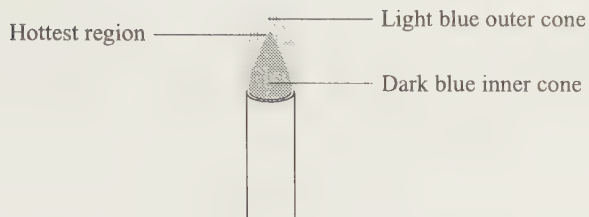

FIGURE 7 A properly adjusted flame on a Bunsen burner.
3. Adjust the air vents until a double cone of flame appears. When the flame is adjusted properly, you will see a dark blue cone within an outer light blue cone. This is shown in Figure 7.